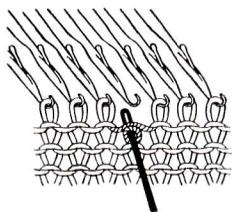

Fig. 26
- a. With the one eye transfer tool, pick up the stitch and the unknitted thread and put them both on the empty needle. (See Fig. 26, 27)